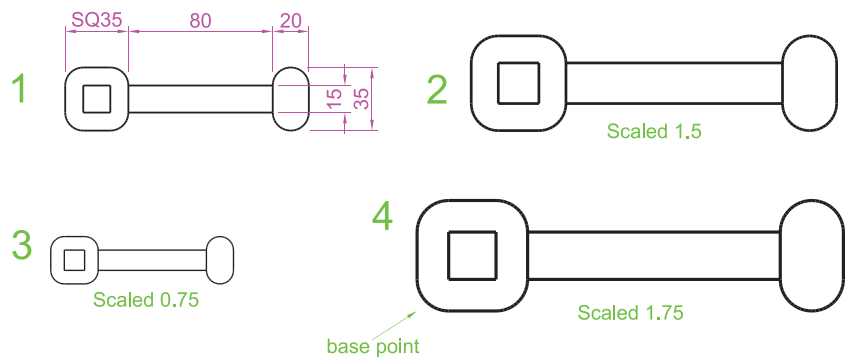

Fig. 5.29 Examples – Scale
Examples – Scale (Fig. 5.29)
1. Using the **Rectangle** and Polyline tools, construct drawing **1** of Fig. 5.29. The **Rectangle** fillets are R10. The line width of all parts is **1**. Copy the drawing 3 times to give drawings **2**, **3** and **4**.
The results are shown in Fig. 5.29.